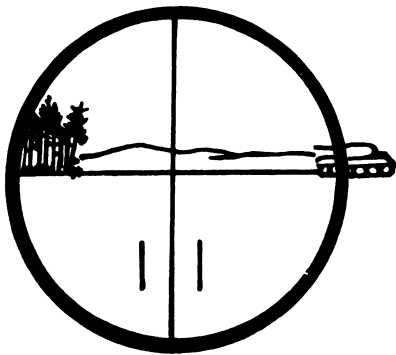

Figure 7
b. If there is a covered area long this path (fig. 7), there is not enough time to fire and hit the target. The target is NOT engageable.